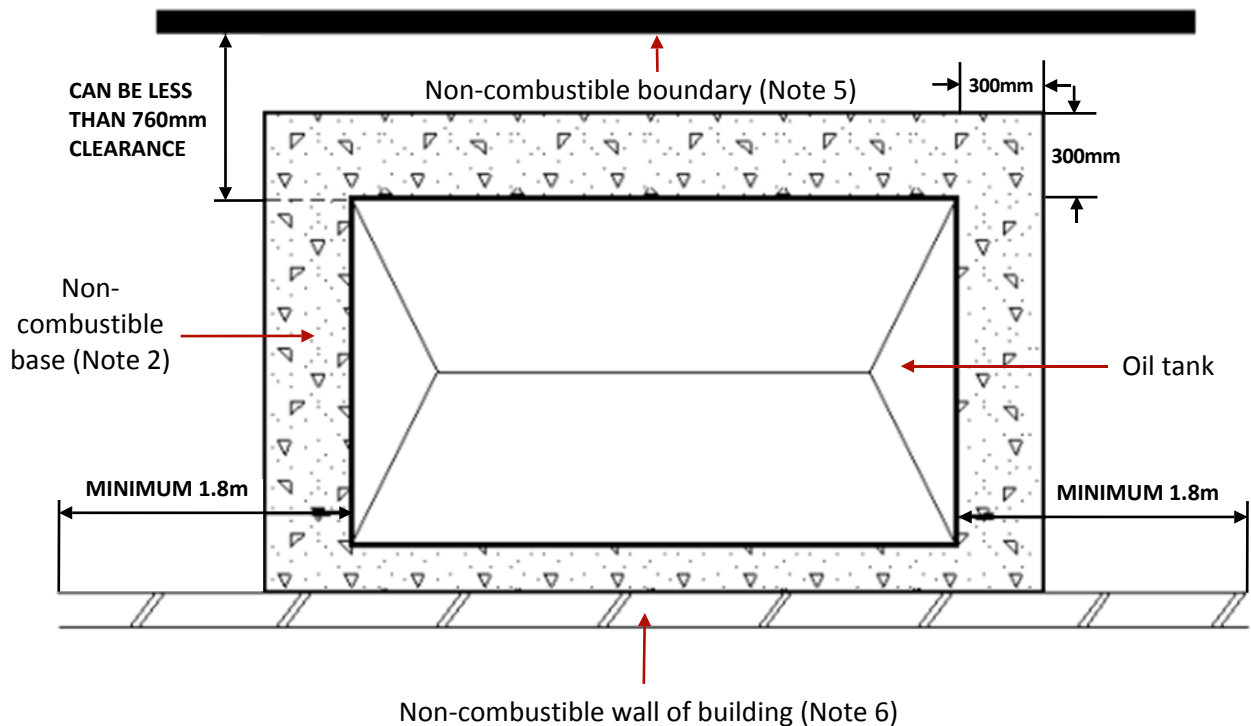

Figure 6: Oil Tank Installation Near Non-Combustible Buildings & Boundaries
- **If tank is less than 1.8m from the walls of a building which does not provide a minimum of 30 minutes fire resistance** - Remedial works must be carried out so that a 30 minute fire barrier is provided between the building walls and the oil storage tank. This should project a minimum of 300mm beyond each exposed end of the tank and 300mm above the upper-most part of the tank (Fig. 6.) Also, combustible eaves of a building which are located within 1.8m of the oil storage tank must be protected by a material with a minimum fire resistance of 30 minutes. This material is to extend 300mm beyond the furthest ends of the tank (Fig. 7.)